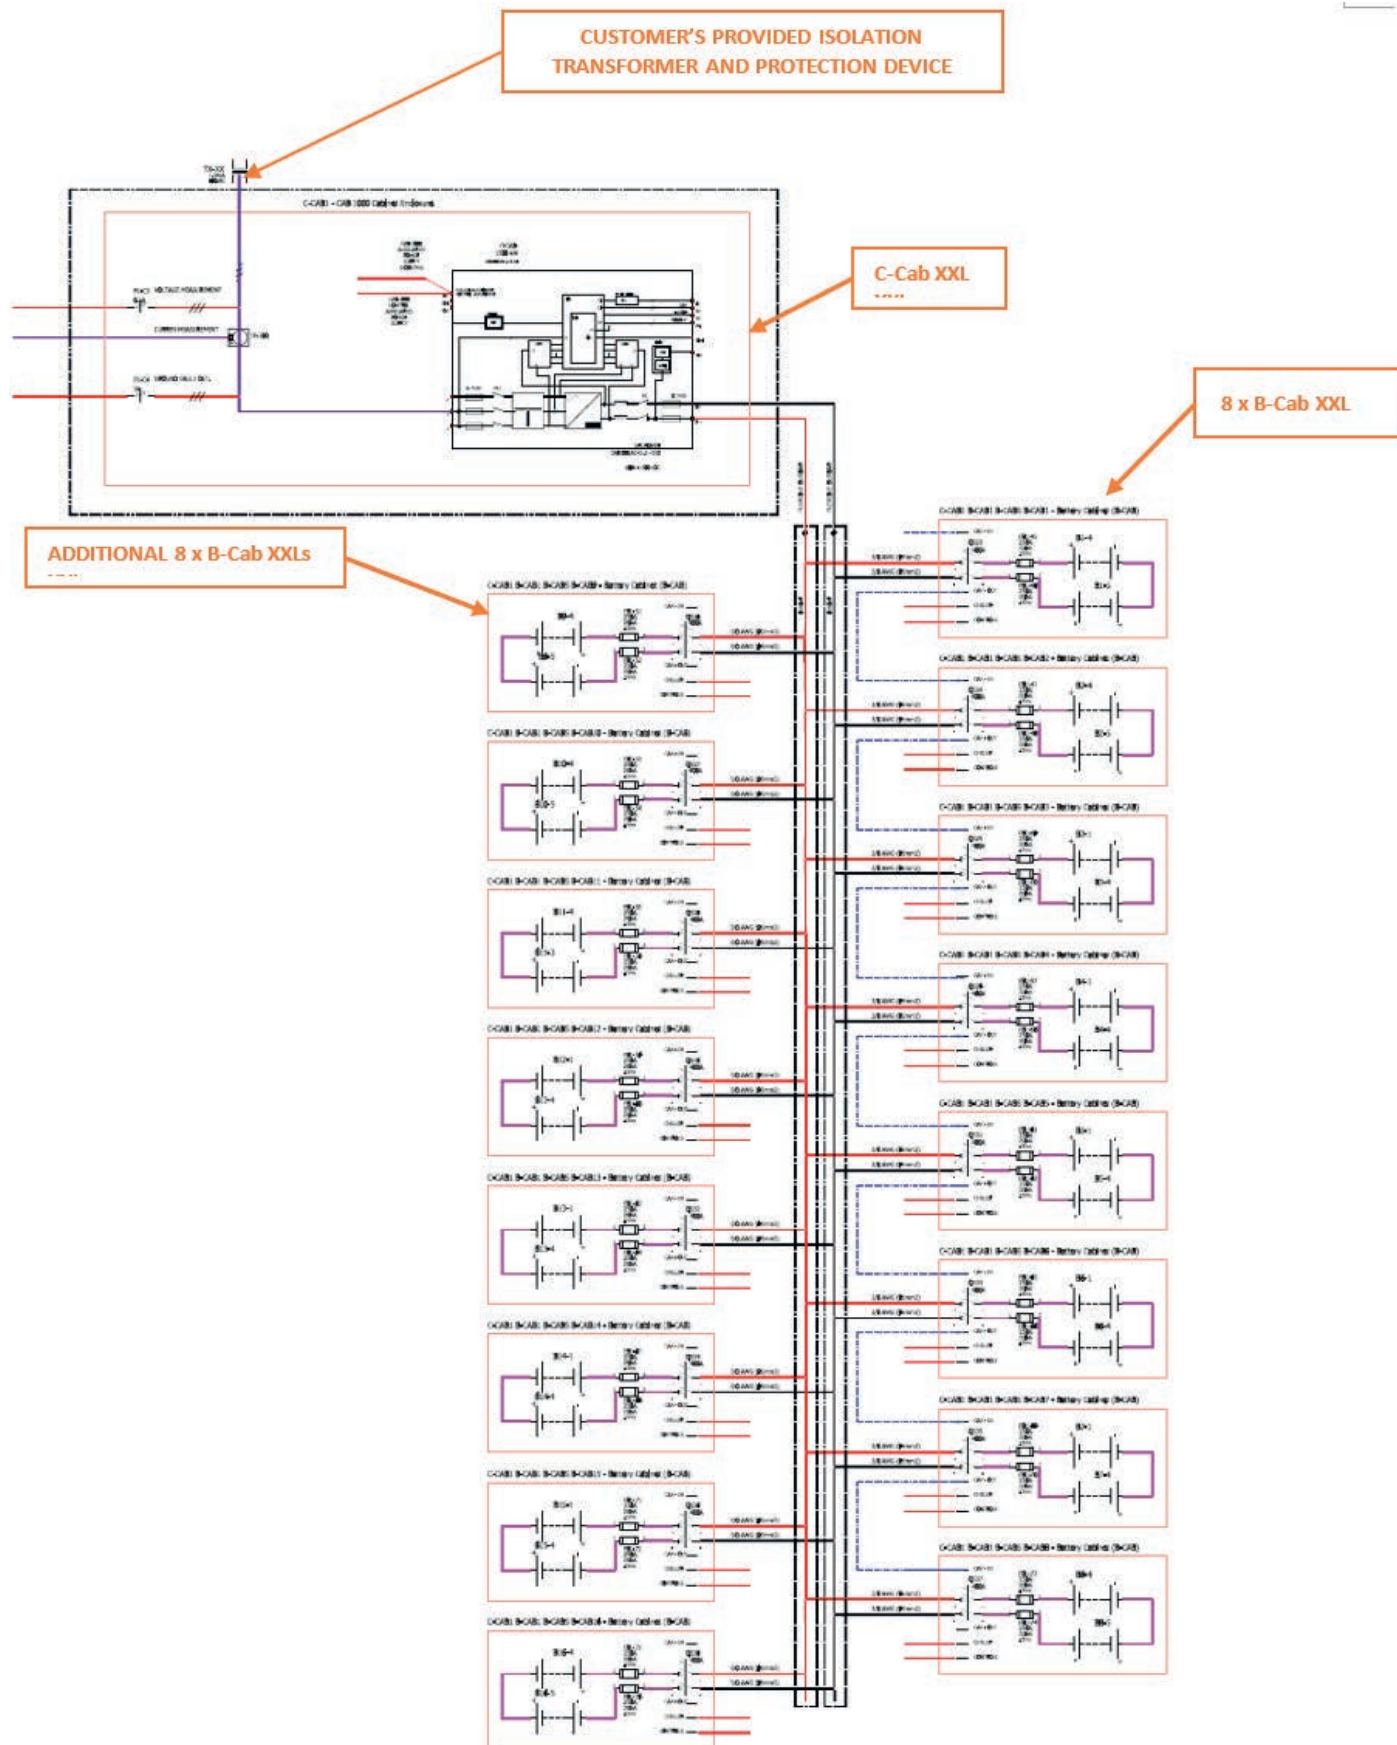

Figure 17. AC to DC Power Flow Diagram
The starting point is the customer-supplied isolation transformer and protection device. These components handle the incoming alternating current (AC) power from the utility grid. This AC power flow is then directed through the bidirectional converter C-Cab XXL, see Figure 17 block diagram. The C-Cab XXL converter acts as a bridge between the AC grid and the energy storage system (batteries). During charging, the bidirectional converter converts the AC power to direct current (DC). This DC power is then stored in the batteries. Conversely, during discharging, the bidirectional converter takes the DC power from the batteries and converts it back to AC power. The final destination for this converted AC power is the load (such as Plant load, microgrid (DER), or other electrical devices).